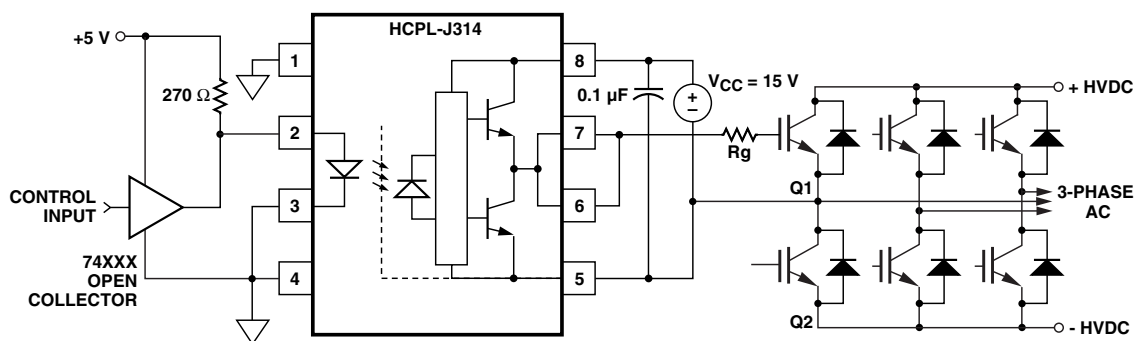
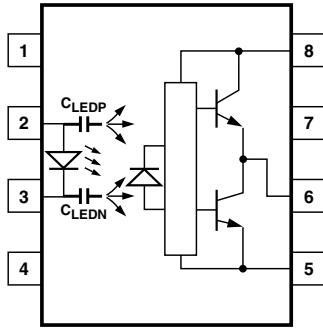
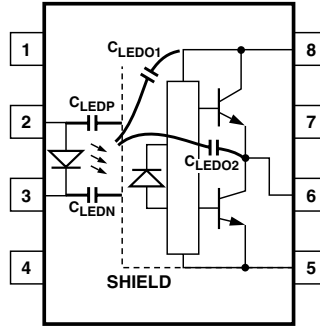

Figure 19. Recommended LED Drive and Application Circuit for HCPL-J314.
Figure 21. Optocoupler Input to Output Capacitance Model for Unshielded Optocouplers.
Figure 22. Optocoupler Input to Output Capacitance Model for Shielded Optocouplers.
eliminate the need for negative IGBT gate drive in many applications as shown in Figure 19. Care should be taken with such a PC board design to avoid routing the IGBT collector or emitter traces close to the HCPL-J314 input as this can result in unwanted coupling of transient signals into the input of HCPL-J314 and degrade performance. (If the IGBT
Step 1: Calculate R_g minimum from the I_{OL} peak specification. The IGBT and R_g in Figure 19 can be analyzed as a simple RC circuit with a voltage supplied by the HCPL-J314.
where $K_{ICC} \cdot Qg \cdot f$ is the increase in I_{CC} due to switching and K_{ICC} is a constant of 0.001 mA/(nC*kHz). For the circuit in Figure 19 with I_F (worst case) = 10 mA, R_g = 32 Ω, Max Duty Cycle = 80%, Qg = 100 nC, f = 20 kHz and T_{AMAX} = 85°C:
Without a detector shield, the dominant cause of optocoupler CMR failure is capacitive coupling from the input side of the optocoupler, through the package, to the detector IC as shown in Figure 21. The HCPL-J314 improves CMR performance by using a detector IC with an optically transparent Faraday shield, which diverts the capacitively coupled current away from the sensitive IC circuitry. However, this shield does not eliminate the capacitive coupling between the LED and optocoupler pins 5-8 as shown in Figure 22. This capacitive coupling causes perturbations in the LED current during common mode transients and becomes the major source of CMR failures for a shielded optocoupler. The main design objective of a high CMR LED drive circuit becomes keeping the LED in the proper state (on or off) during common mode transients. For example, the recommended application circuit (Figure 19), can achieve 10 kV/μs CMR while minimizing component complexity.
supplied by the LED, and it is not recommended for applications requiring ultra high CMR_L performance. The alternative drive circuit which like the recommended application circuit (Figure 19), does achieve ultra high CMR performance by shunting the LED in the off state.